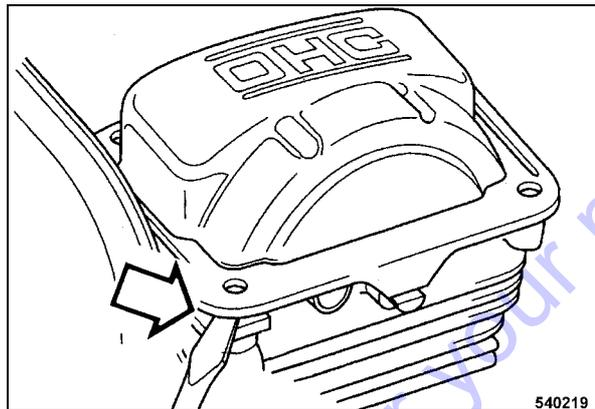

Fig. 48
- Insert the screw driver into the recess (Fig. 48) and take the cylinder head cover carefully off.